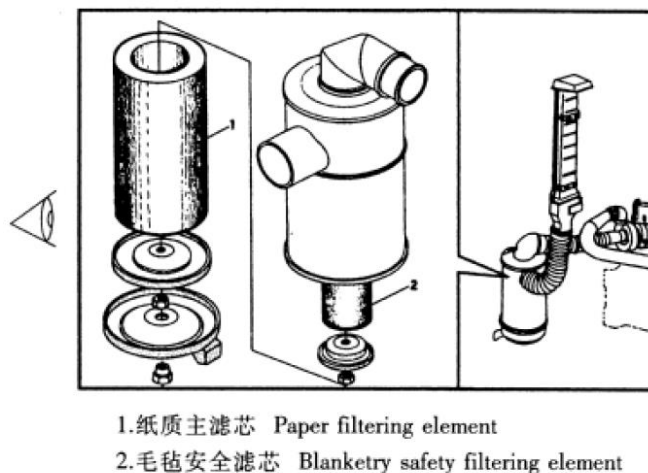

Fig.2-13 Air filter
- Check the air filter element (fig. 2-13)